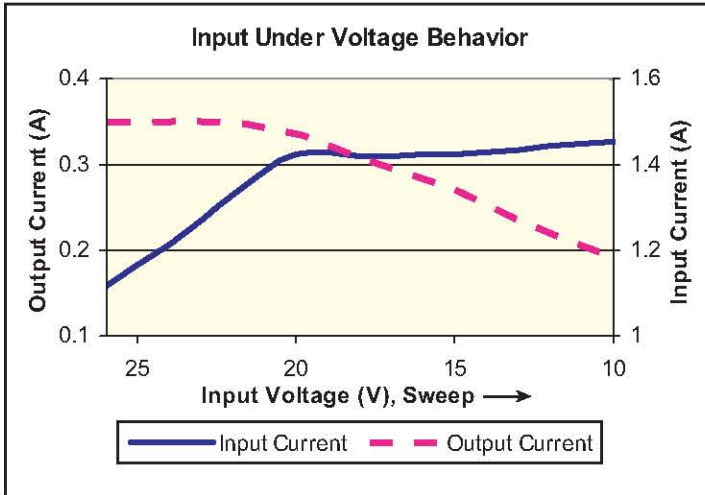

Fig. 5. Input Under Voltage Behavior
3. Input Under Voltage Protection: Input under voltage protection is provided by limiting the input current at low input voltages. Fig. 5 shows the output and input currents at voltages less than the minimum rated voltage. The LED current will decrease as the input voltage falls and the input current limits to about 1.4A. Note that the input current limit is not a hard limit as the slope compensation added to the peak current sense signal will allow a small change in the input current with a decrease in the input voltage.